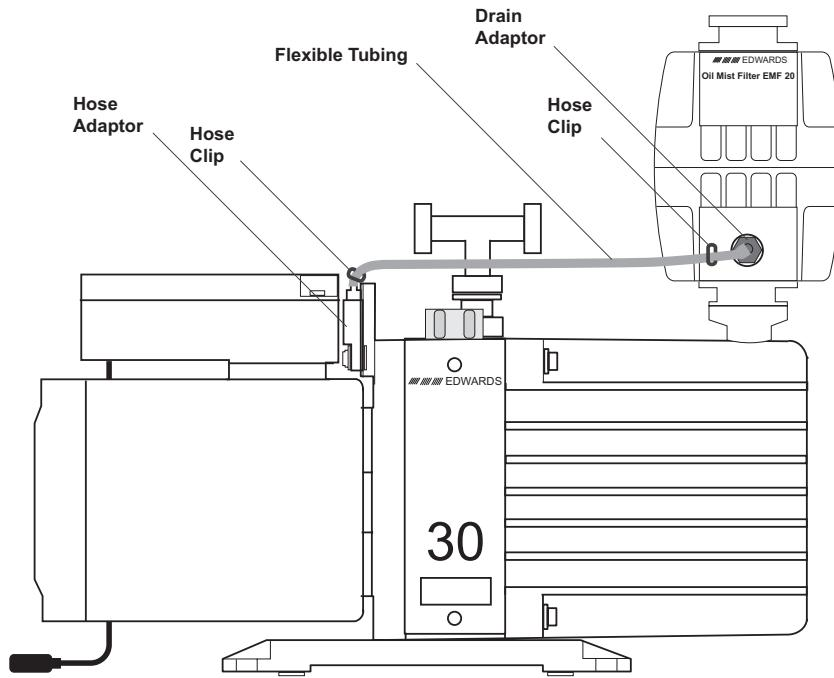

Figure 1-8. Connecting the flexible oil return tubing
- c. Attach one end of the tubing to the drain adapter on the oil mist filter and the other end to the hose adapter. Use the two hose clips to secure the ends of the tubing (see Figure 1-8).